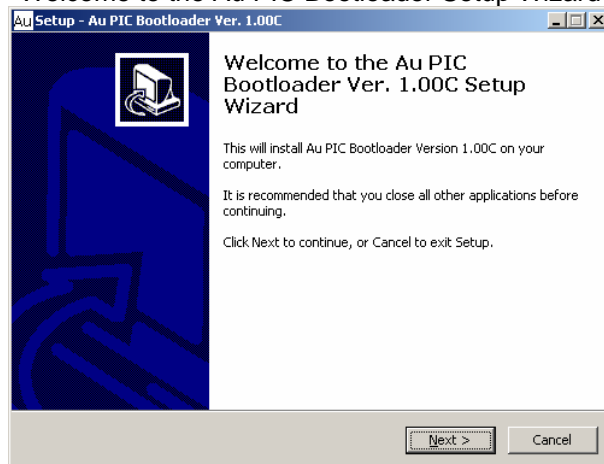

Figure D-2
2. "Welcome to the Au PIC Bootloader Setup Wizard" window show up, click "Next" (Figure D- 2)